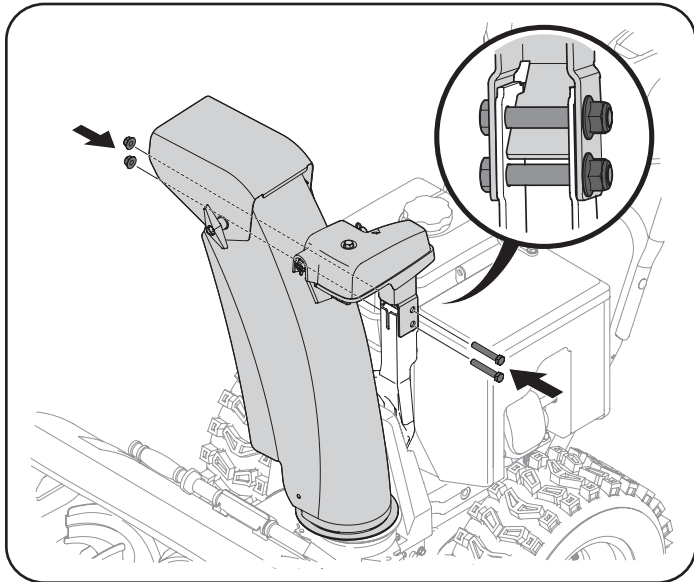

Figure 28
- Secure chute control head to chute support bracket with lock nuts and hex screws removed in Step 1. See Figure 28.